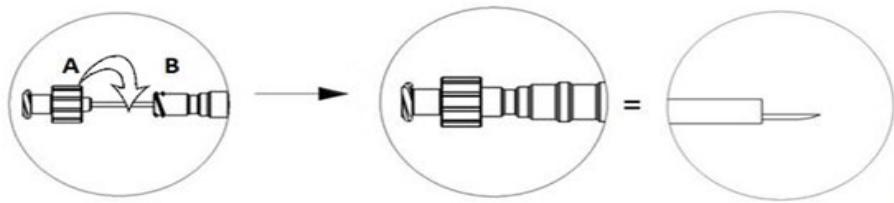
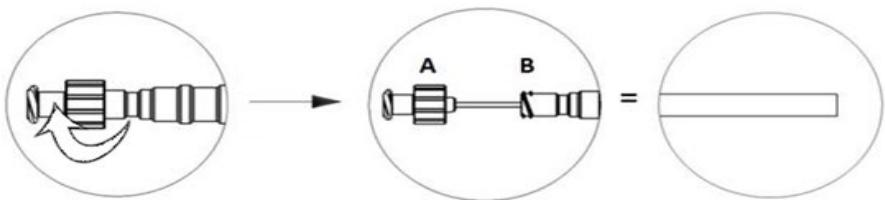

FIG. 1
FIG. 2
- To lock the needle in the out position, gently advance the proximal luer (A) until it meets the handle's luer (B) and then slowly twist the proximal luer clockwise until the two luers are fully engaged (Figure 1).
- Attach the syringe filled with the desired injection media to the proximal luer connection. (A) (Syringe not provided)
- To unlock the needle to the retracted position, slowly twist the proximal luer counterclockwise until the two luers are fully disengaged (Figure 2).
4. Once the device is at the injection site, gently advance the proximal luer (A) until it meets the handle's luer (B). To lock the needle in place, slowly twist the proximal luer clockwise until the two luers are fully engaged (Figure 1).
7. When injection is completed and prior to use of the snare, retract the needle fully into the catheter by twisting the proximal luer counterclockwise until the two luers are separated (Figure 2). The needle is spring loaded and once the two luers are separated, the needle will spring back into the sheath.